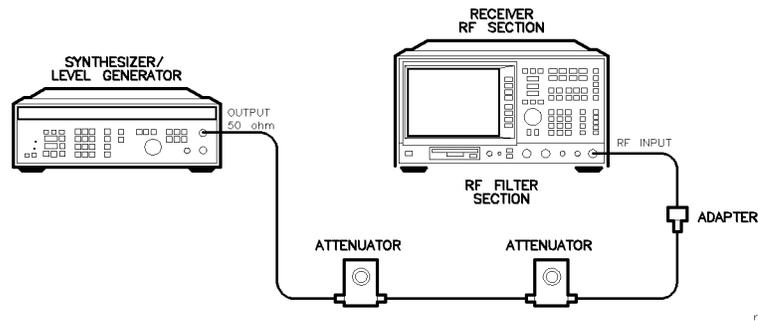

Figure 2-11. Reference Level Accuracy Test Setup
2. Connect the equipment as shown in Figure 2-11. Set the 10 dB step attenuator to 10 dB attenuation and the 1 dB step attenuator to 0 dB attenuation.